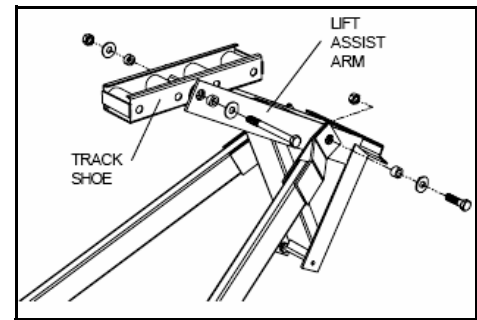

Figure 3.7
- ➔ 5. **MK130 Plus 81'**: attach the lift-assist arm to the center hole on the track shoe with an 11/16" short spacer and flat washer on each side and a 1" x 10" bolt and locknut. **Tighten securely** (Figure 3.7).